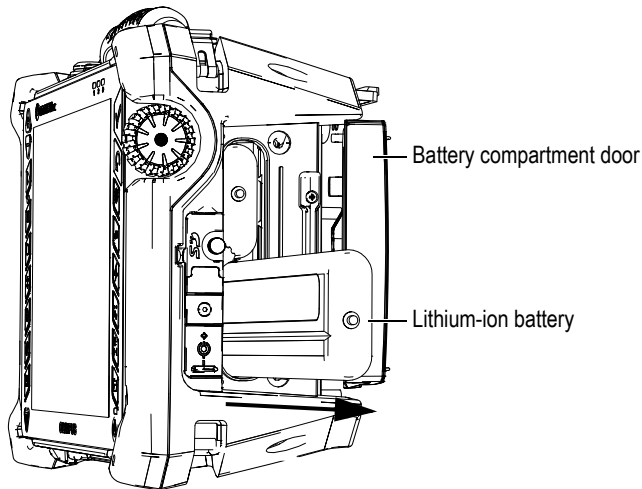

Figure 2-5 Removing a lithium-ion battery
2. Pull the cloth tab to remove the battery (see Figure 2-5 on page 42).